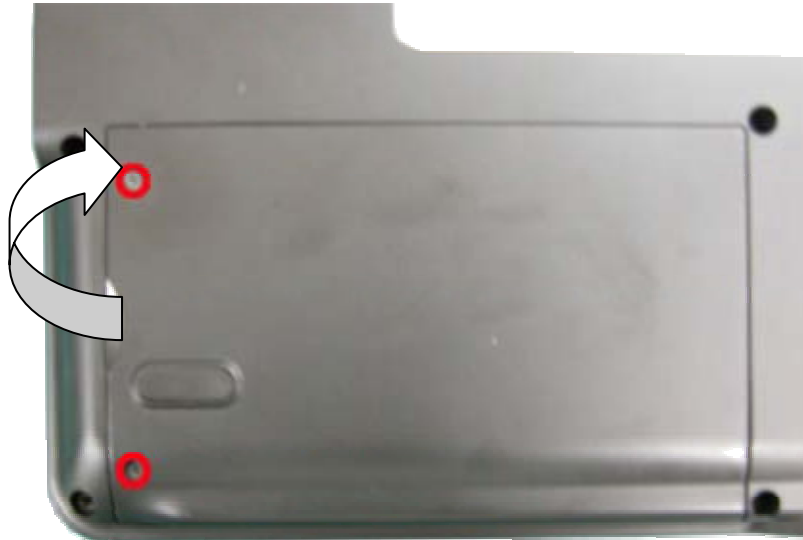

Fig. 2 Removing the Hard disk drive cover
1. Remove the screws on HDD cover and carefully open up as shown in Fig. 2